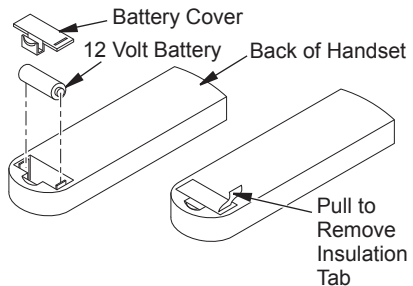

Figure 19 - Installing Battery into Back of Handset
3. Activate remote handset battery by removing insulating tab on back of handset (see Figure 19). Battery is included pre-installed.